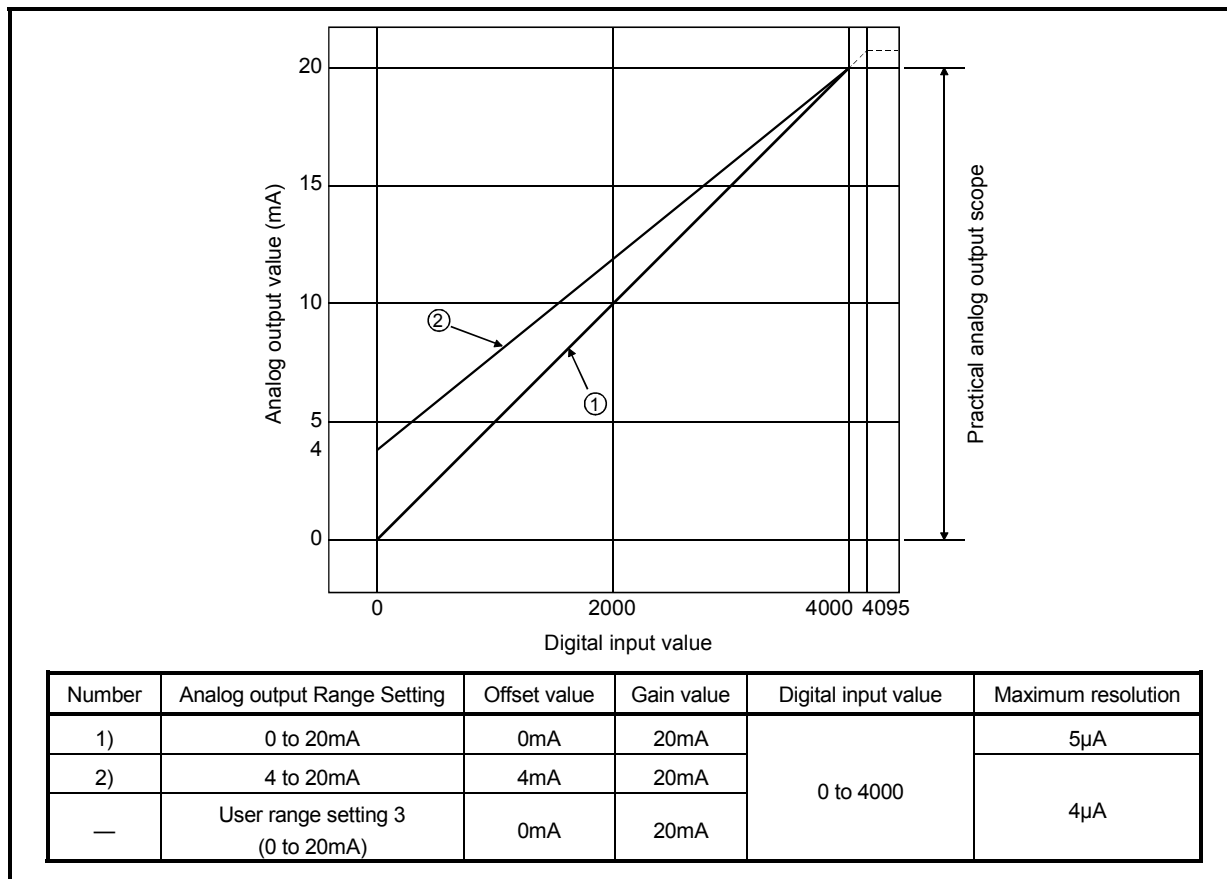

Fig. 3.2 Current Output Characteristic
- (1) Within the digital input and analog output scopes of each output range, the maximum resolution and accuracy are within the performance specification range. Outside those scopes, however, they may not fall within the performance specification range. (Avoid using the dotted line part in Fig. 3.2.)
- (2) Set the offset and gain values of the user range setting within the range satisfying the following conditions.